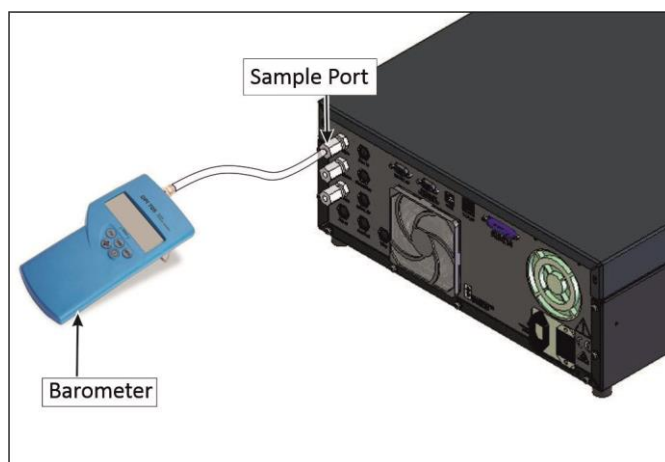

Figure 105 – Pressure Calibration (Internal Pump Option Only) Set-up
3. Connect a barometer to the **Sample Port** (refer to Figure 105).